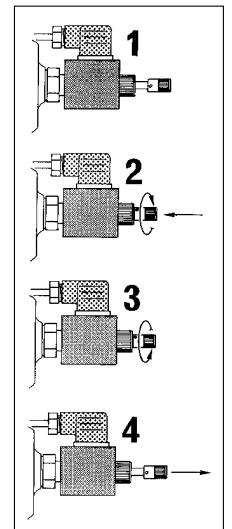

fig. 22a
On the distributor it has been installed an electro-valve with a manual locking function (fig. 22) which allows to reactivate all the crane functions in case of absence of the electric power. Only in these conditions it is permitted to remove the lead seal which protects the device. Push the button and turn it into the clockwise sense (fig. 22a pos. 1-2); the button stays in stable and closed position.
- (!) **When the electric power is reestablished, remember to put the button in its original position, turning it into the anti-clockwise sense. (fig. 22a pos. 3-4)**